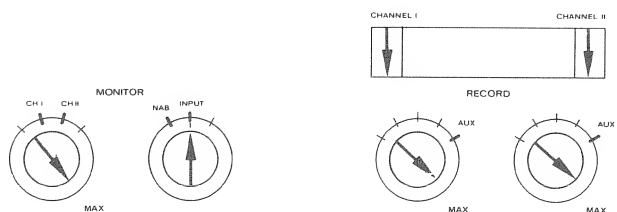

Fig. 6.5–71
- Set controls per fig. 6.5 –71.